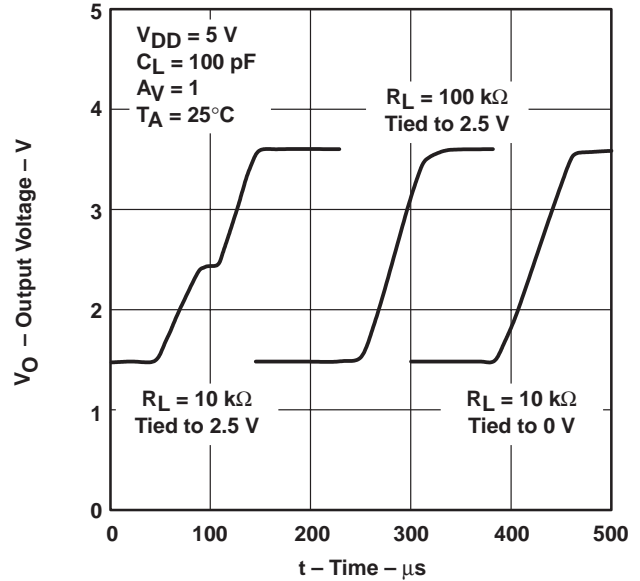

Figure 38
- Where the load is referenced. When the load is referenced to either rail, this condition does not occur. The distortion occurs only when the output signal swings through the point where the load is referenced. Figure 38 illustrates two $10\text{-k}\Omega$ load conditions. The first load condition shows the distortion seen for a $10\text{-k}\Omega$ load tied to 2.5 V . The third load condition shows no distortion for a $10\text{-k}\Omega$ load tied to 0 V .
- Load resistance. As the load resistance increases, the distortion seen on the output decreases. Figure 38 illustrates the difference seen on the output for a $10\text{-k}\Omega$ load and a $100\text{-k}\Omega$ load with both tied to 2.5 V .